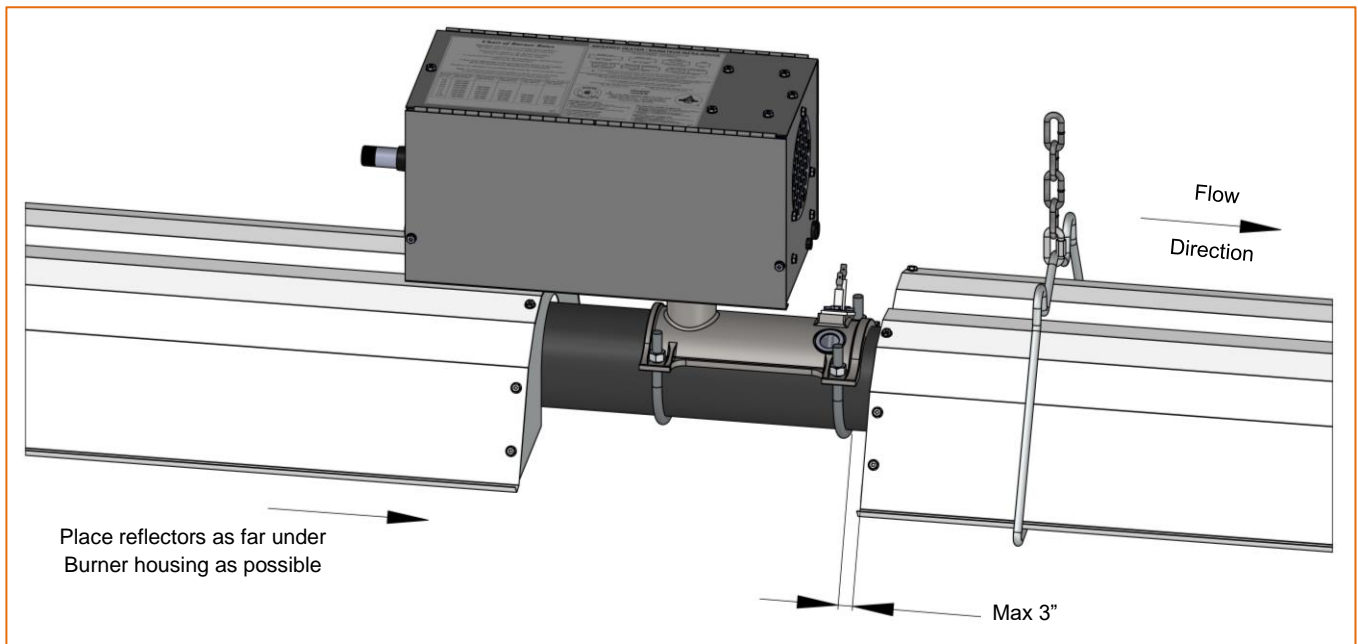

Figure 21: Standard Reflector and Burner Relative Positioning
- When approaching successive Burner locations, ensure the Reflector is as far under the Burner (close to the Burner mounting hole) as possible, as shown in Figure 21. *Install an End Cap using #8 x 3/8" screws on the open end of the Reflector which will be under the Burner at the end of the Reflector run.